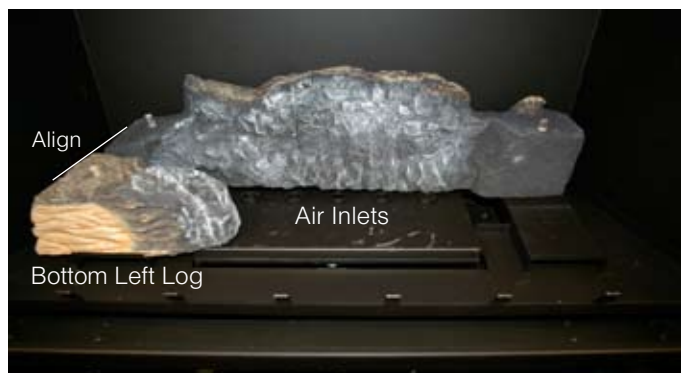

Figure 30b. Placing Bottom Left Log.
Step 3. Place the bottom Left log as shown in figure 30b.
Arrange the ember chips on top of the burner tray. Care should be taken when placing the embers, as blocked burner ports may cause an incorrect flame pattern, carbon deposits and delayed ignition. Also, the embers must never be placed in a way that obstructs any of the air inlet ports, located at the rear of the burner, as shown in figure 30b.